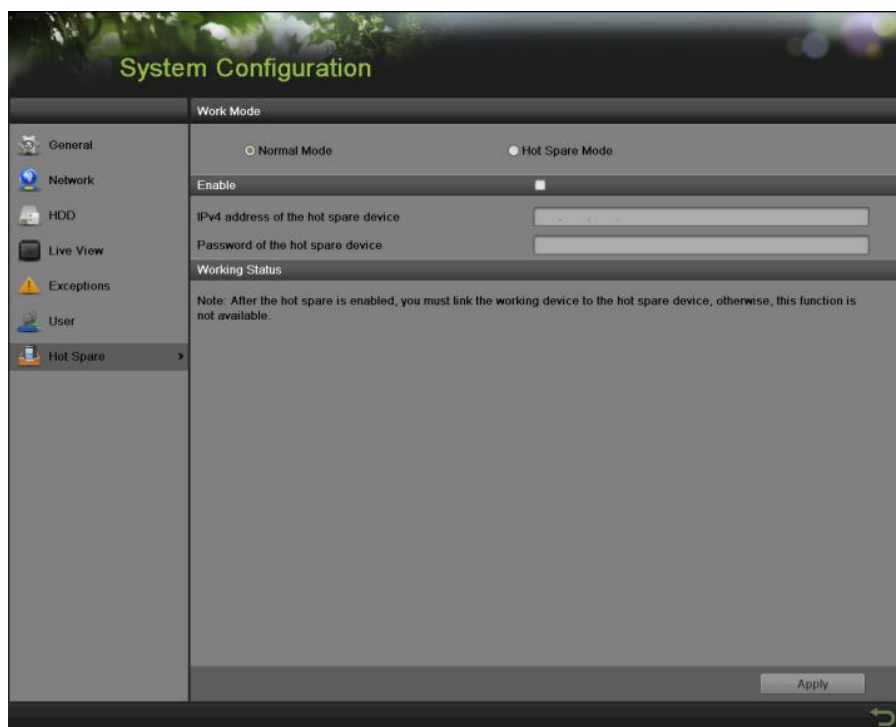

Figure 88 Hot Spare Configuration Menu
1. Enter the Hot Spare Configuration menu by going to Menu > System Configuration > Hot Spare. As shown in Figure 88.